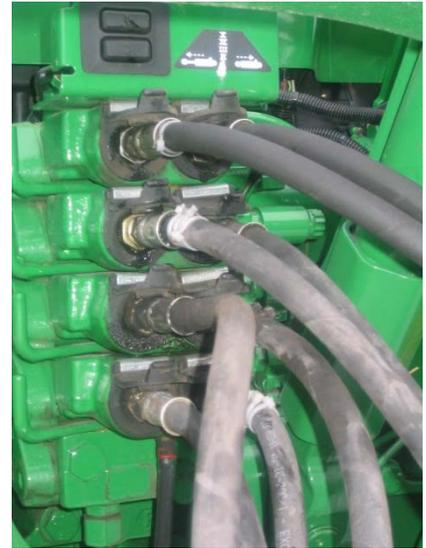

Figure 5-1: Attaching Hydraulic Lines
1. Connect all hydraulic lines to tractor as shown in Figure 5-1.